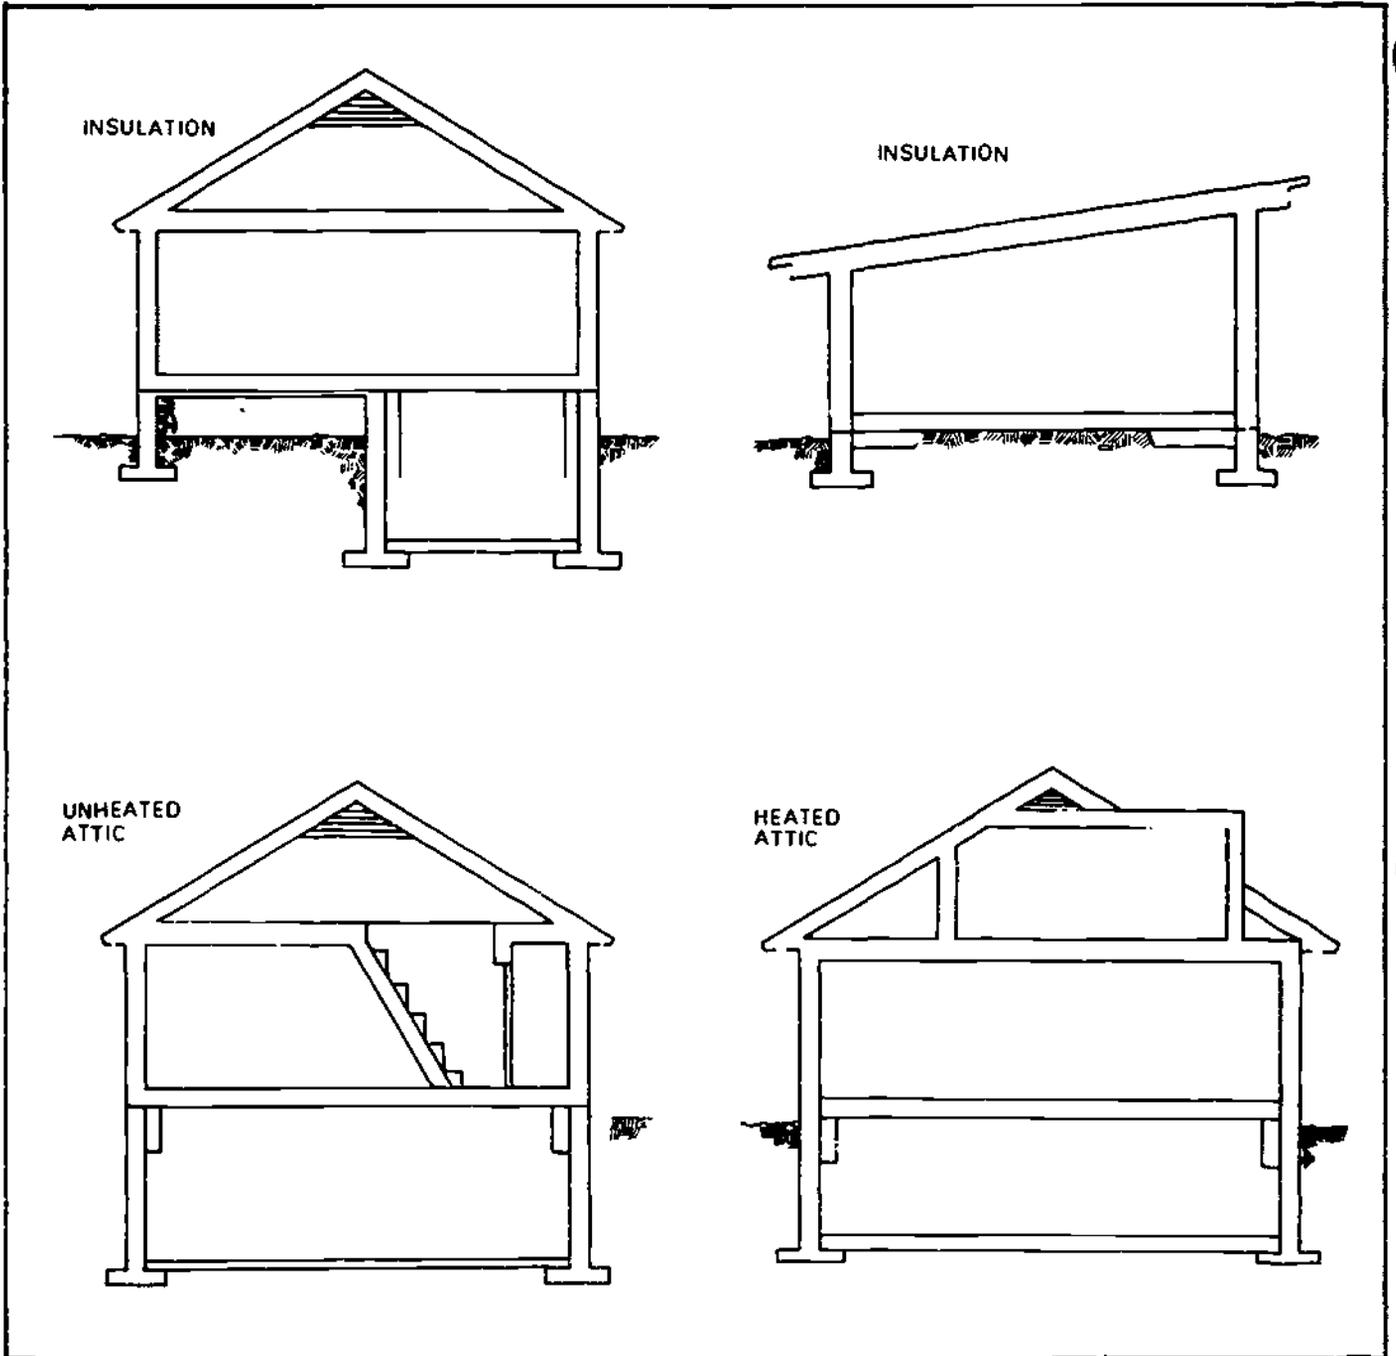

FIGURE 4
22. In Figure 4, page 60, indicate type and location of insulation to be installed in the ceiling.
9. In Figure 4, page 60, indicate type and location of insulation to be installed in the floor.
15. In Figure 4, page 60, indicate type and location of insulation to be installed in the walls.